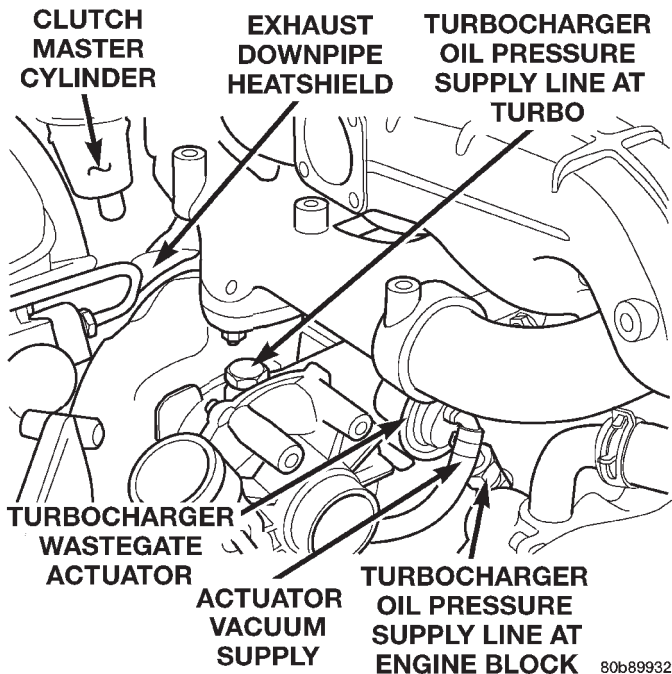
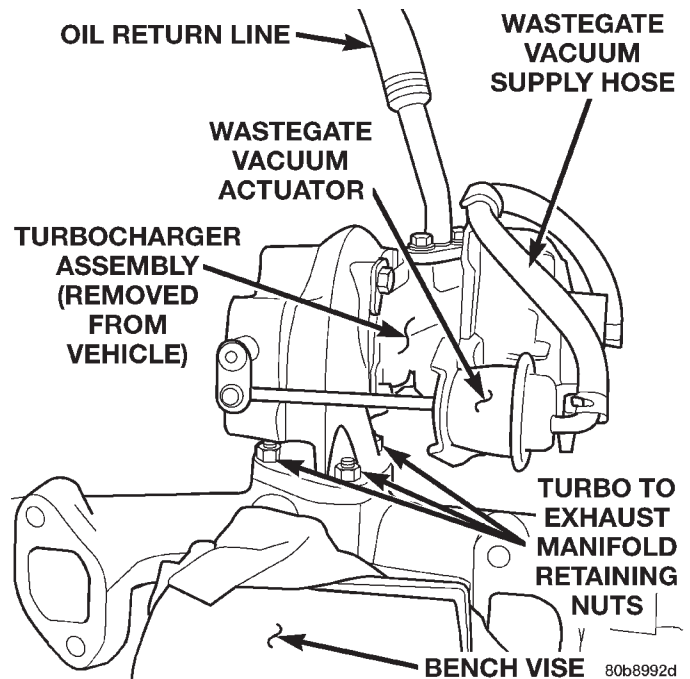

Fig. 17 R.H.D. Turbo Position & Orientation
Fig. 18 Turbocharger / Exhaust Manifold Assembly Cleaning
(21) Remove the wastegate actuator vacuum supply hose from the actuator (Fig. 17).
(22) Remove the turbocharger oil pressure supply line from the engine block (Fig. 17).
(23) Working inside of the vehicle, remove the Knee Blocker. Refer to Group 8E, Instrument Panel Systems for the procedure.
(24) Disconnect the neutral safety switch electrical connector at the clutch pedal.
(25) Remove the (2) clutch master cylinder retaining nuts from the bulkhead.
(26) Working from the inside of the engine compartment, remove the clutch master cylinder from the bulkhead and position the cylinder and line assembly out of the way.
(27) Remove the (5) bolts from the exhaust manifold downpipe and remove the pipe.
(28) Remove the (8) exhaust manifold retaining bolts, it is necessary to access the bolt behind the manifold outlet from the underneath of the vehicle.
(29) Remove the steering shaft pinchbolt and slide the shaft straight off of the gearbox input shaft. Position aside.
(30) Remove the exhaust manifold and the turbocharger assembly from the vehicle.
(31) Place the turbo assembly in a vice to remove the (3) exhaust manifold to turbocharger retaining nuts (Fig. 18).